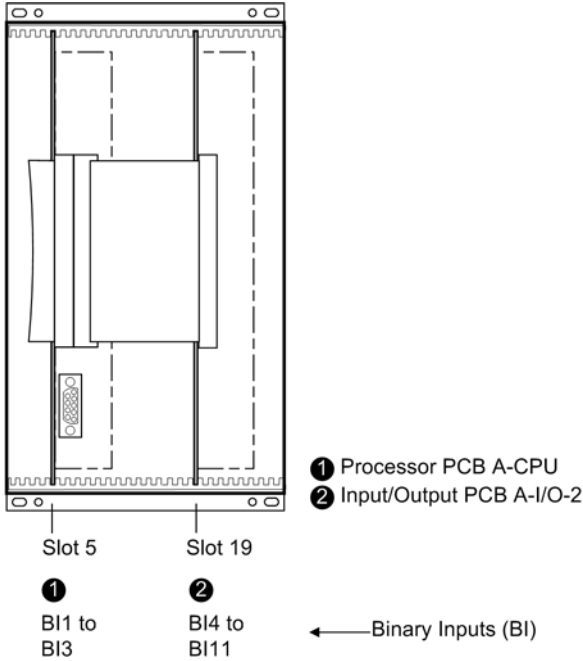

Figure 3-2 Front view of 7SJ689 after removal of the front cover (simplified and scaled down)
- Disconnect the ribbon cable between the front cover and the CPU board (No. 1 in Figure 3-2) at the front cover side. Press the top latch of the plug connector up and the bottom latch down so that the plug connector of the ribbon cable is pressed out. This action does not apply to the device version with detached operator panel. However, on the central processor unit CPU (No. 1) the 7-pole plug connector X16 behind the D-sub-miniature connector and the plug connector of the ribbon cable (connected to the 68-pole plug connector on the rear side) must be removed.
The arrangement of modules for device types and housing sizes are shown in Figure 3-2.
- Carefully insert the boards into the case. The mounting locations are shown in Figures 3-2 to . For the model of the device designed for surface mounting, use the metal lever to insert the processor circuit board CPU board. The installation is easier with the lever.